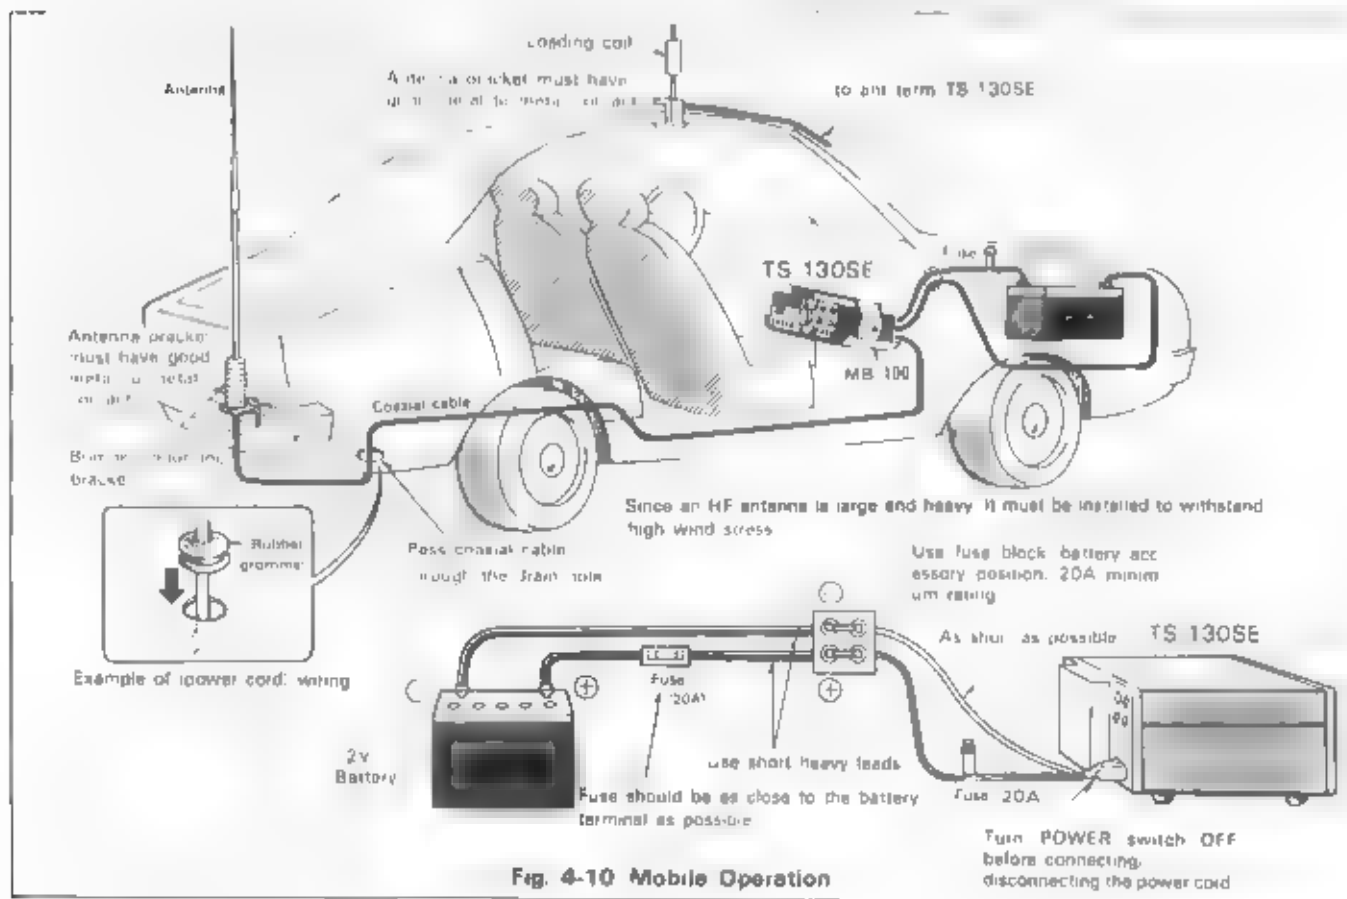

Fig. 4-10 Mobile Operation
4.8 MOBILE OPERATION (Fig. 4-10)
Secure the TS-130SE under the dashboard using an optional MB-100 mounting bracket as shown in Fig. 4-10. As an alternative, use strapping, making sure that the TS-130SE will not slip out of place while driving the vehicle.
Use a rugged mount for the mobile antenna because HF antennas are larger (and have more wind load) and are heavier than VHF antennas. A bumper mount is recommended for general use. The ground side of the mount must be grounded perfectly to the body of the car since the body itself functions as the ground plane for the mobile antenna. (Refer to Fig. 4-10.)
(2) Coaxial Cable Connection (Fig. 4-10)